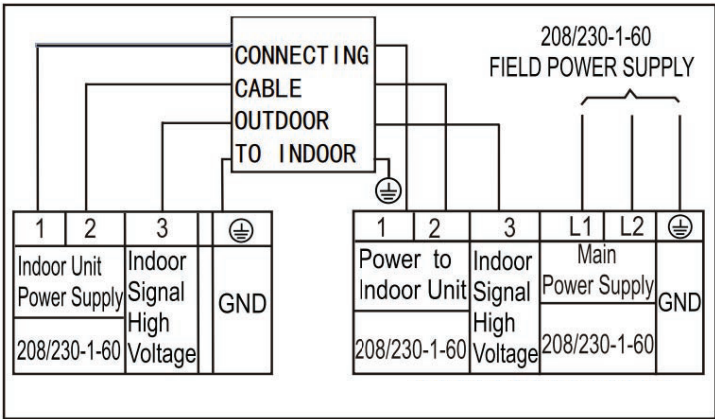

Fig. 23 — Sizes 09K, 12K, 18K, 24K (208/230V)
2. All connections between the indoor and outdoor units must be made as shown in Figure 23. The connections are sensitive to polarity and will result in a fault code.